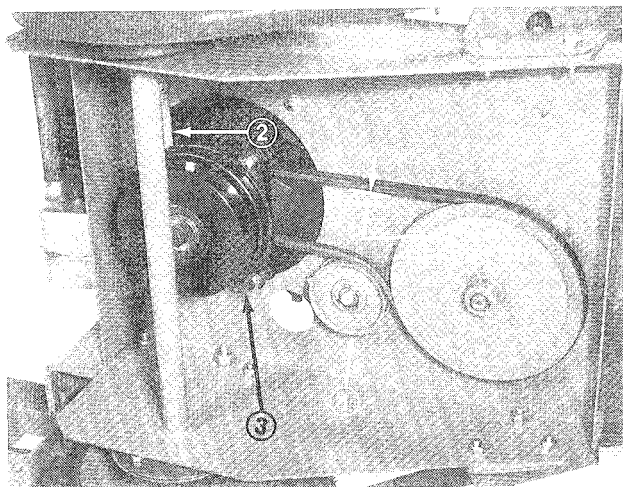

Figure 21
1. Loosen capscrew and flange nut securing idler pulley to frame (Fig. 21). Slide pulley outward relieving belt tension.
2. Remove left front engine mounting bolt securing clutch retainer to frame (Fig. 21). Unhook retainer from clutch and remove retainer.
3. Disconnect in-line wire connector and remove belt from drive pulley and clutch (Fig. 21).
6. Position and secure idler pulley to frame so belt deflection is no more than $11/64$ " when 5-1/2 lb of force is applied to midspan of long leg of belt (Fig. 21).
1. To adjust clutch, tighten or loosen locknuts on flange studs (Fig. 21).